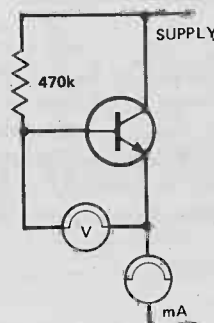

Fig. 2. The circuit used to verify the relationship between  $I_E$  and  $V_{BE}$ .
It is a simple matter to verify this, using the circuit of fig. 2. The voltmeter must have a high impedance, otherwise the value of  $I_E$  will be incorrect.
**Fig 2. (Above) the power supply and speaker protection components and associated circuitry. Note that some components mount directly onto the main PCB and not onto the separate PSU board.**